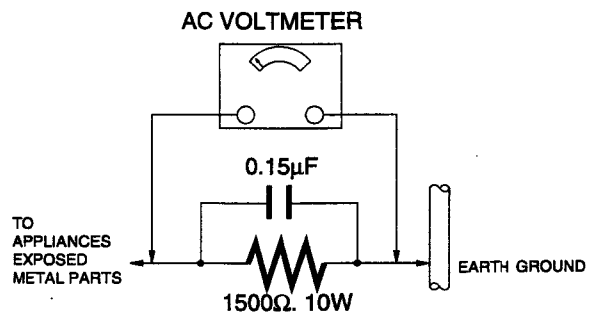

Figure 1
2. Connect a 1.5K ohms, 10 watts resistor, in parallel with a 0.15 micro farad capacitor, between each exposed metallic part on the set and a good earth ground, as shown in Figure 1.